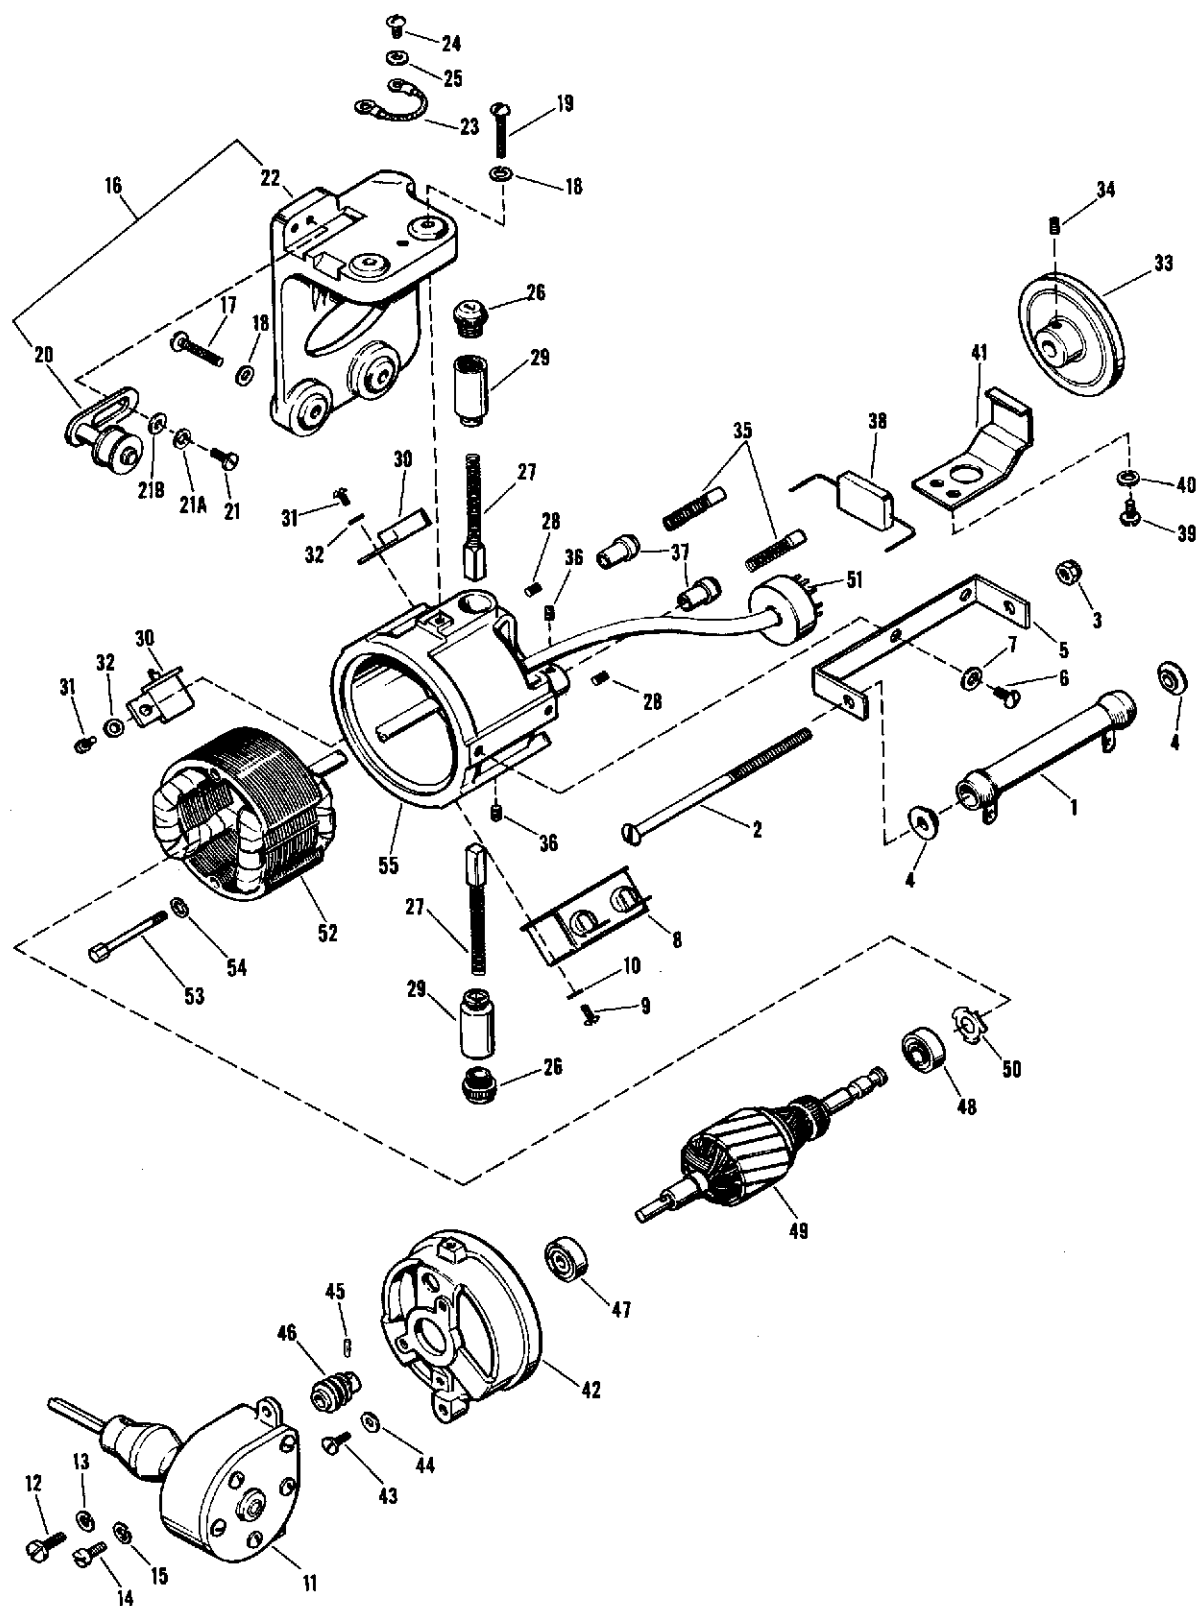

Figure 2-16. Drive Motor Assembly
Key for Figure 2-16
2-65. DISASSEMBLY. (See figure 2-16.)
2-69. REASSEMBLY. (See figure 2-16.)
- f. Install motor mounting bracket parts (items 16 through 25) by reference to figure 2-16.
- g. Install governor brushes (35) and bracket (41). Place governor (33) on armature shaft. Governor should seat about 1/32-inch from each brush holder. Install and tighten two sets screws (34). The motor speed adjustment will be made just before drive motor is installed to projector (paragraph 2-167).